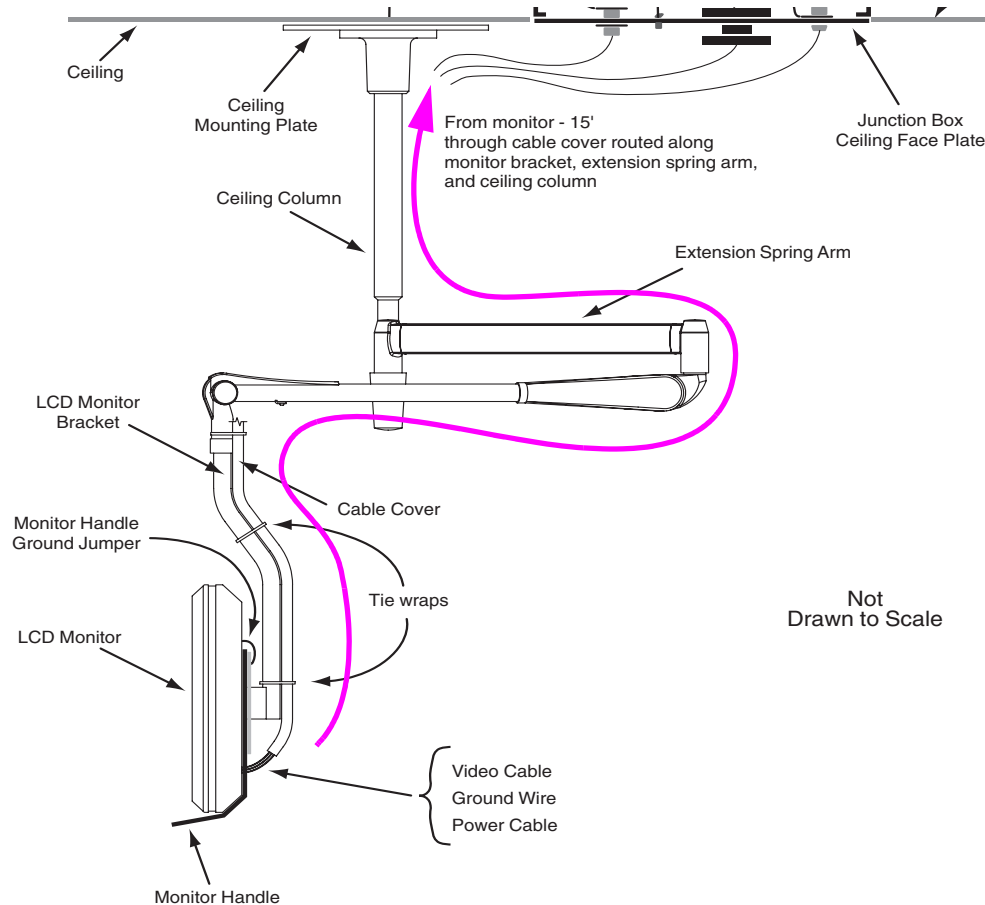

Figure 2-23 LCD Monitor Assembly with Cables and Cover
- 1.) Route the cables along the boom arm through cable cover as shown in Figure 2-23. Leave enough slack at each joint to permit the full range of motion without stretching individual cables.